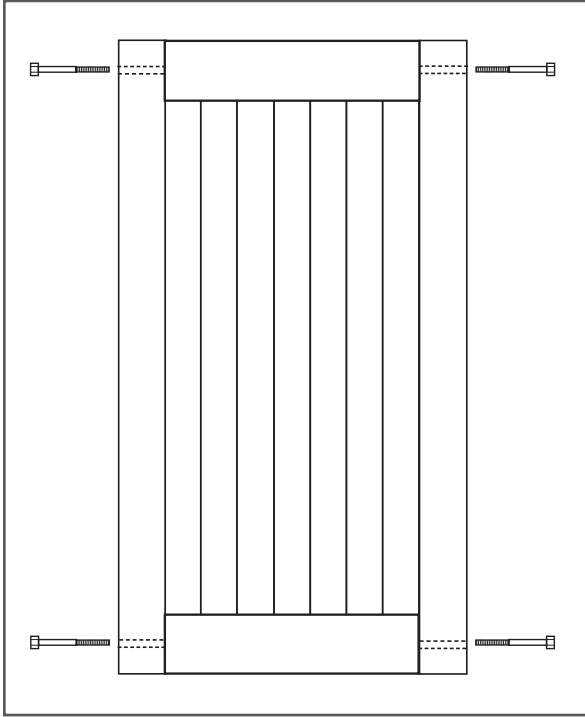

Figure 5
5. Fix the door assembly with four 6" lag bolts (provided), using a socket wrench with a 7/16" socket (Figure 5).